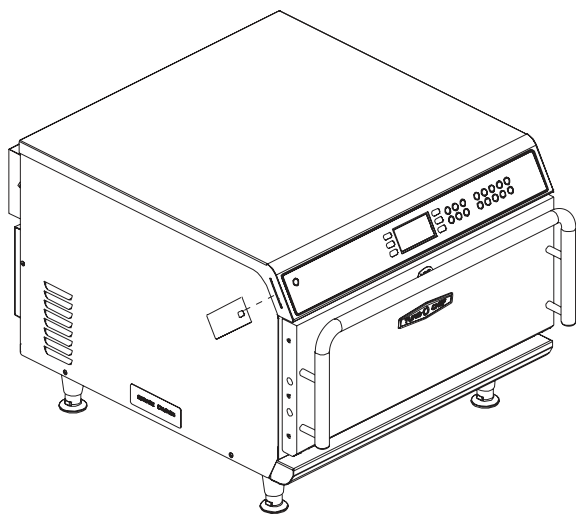

FIGURE 21: Inserting Smart Card into Reader
2. Insert the smart card into the smart card reader. Orient the card as shown in Figure 21.
3. Insert the smart card into the smart card reader. Orient the card as shown in Figure 21.